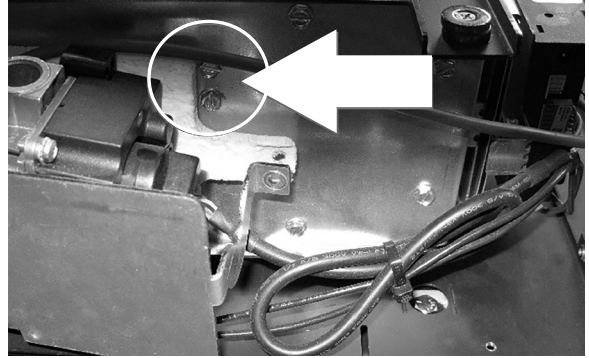

Figure 5
5. **Figure 5** shows the 2 screws on the right underside of the firebox, remove these screws. A $\frac{5}{16}$ " 6" or longer nut driver will make removal of these screws easier. Keep these screws in a safe place as they will be needed to install the Logset burner.